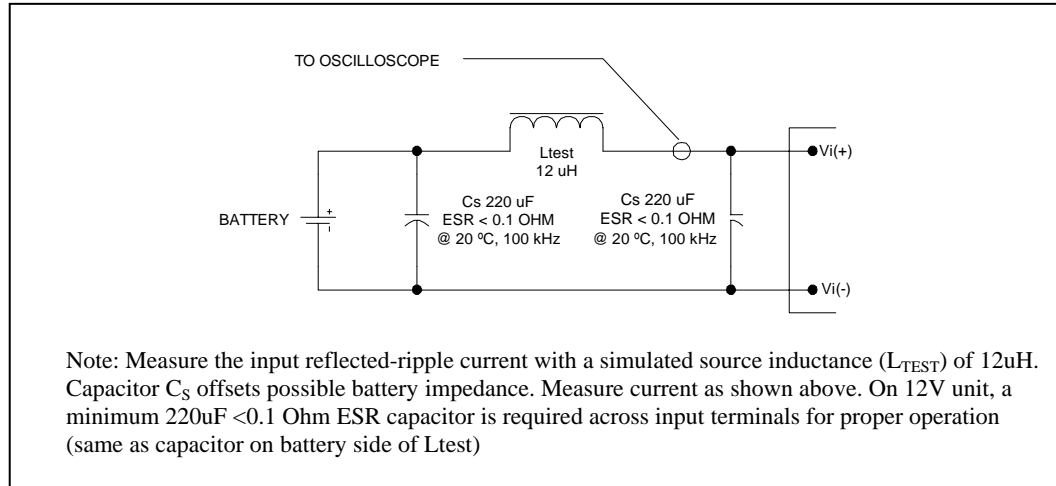

Figure 1. Input Reflected -Ripple Test Setup.
2. Refer to Figure 1 for the input reflected ripple current test setup.